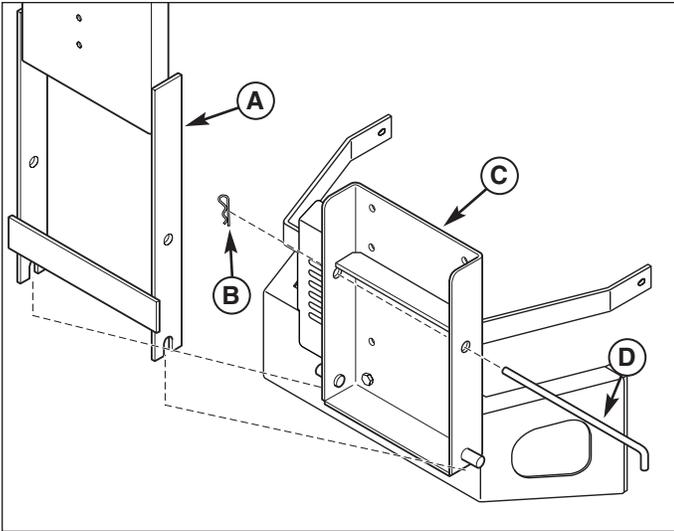

Figure 4. Install Back Plate (Flat Style Bumper shown)
2. Set the back plate and support (A, Figure 4) onto pins of hitch plate (C). Secure with rod (D) and hair pin (B).